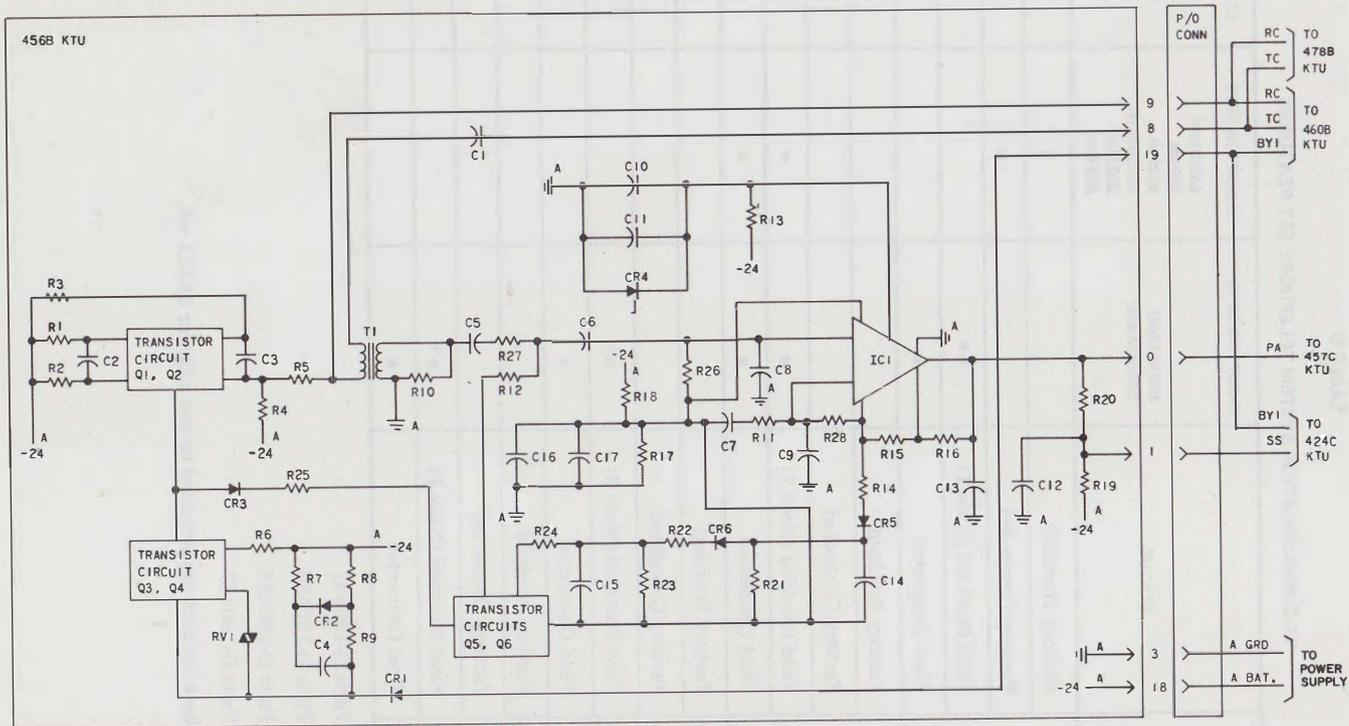

Fig. 18—Condensed Functional Schematic of 456B KTU (Voice and Tone-Alerting Circuit)
2.24 The 456-type KTU (Fig. 18) is a 4-inch unit that provides the following features on intercom calls: